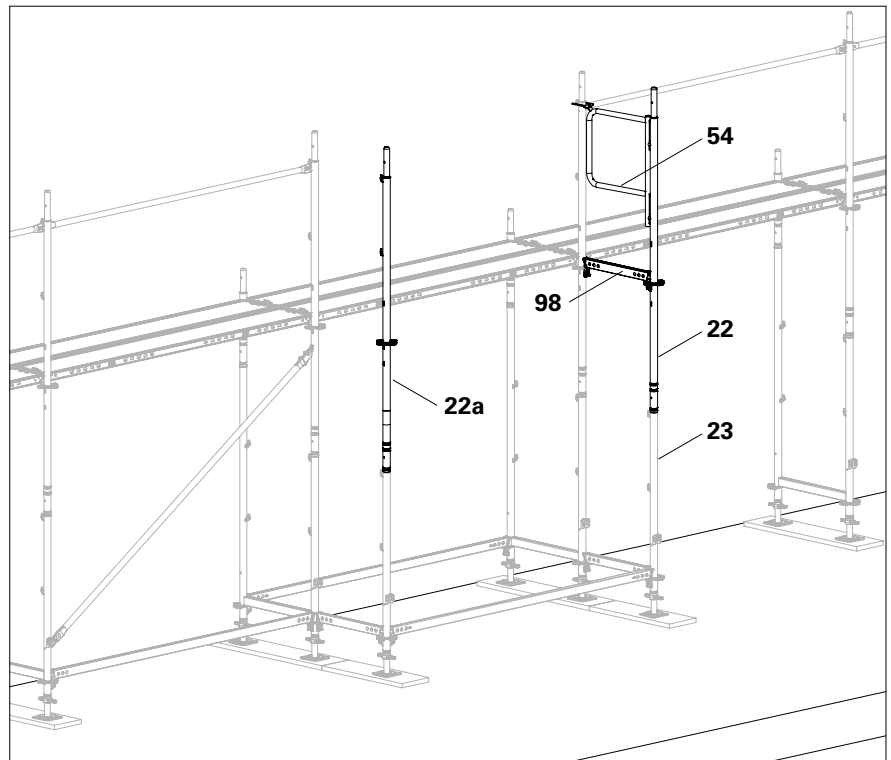

Fig. B8.03
1. Pre-assemble End Guardrails EPF (54) on an Easy Standard EVM (22).
2. Fit Easy Standard EVM (22) onto Easy Base Standard EVS (23) with a pre-mounted end guardrail (54).
3. Fit Horizontal Ledger UH-2 67 (98) between Easy Standard (22) and base scaffold as an upper stair support. Secure the wedges.
- (Fig. B8.03)